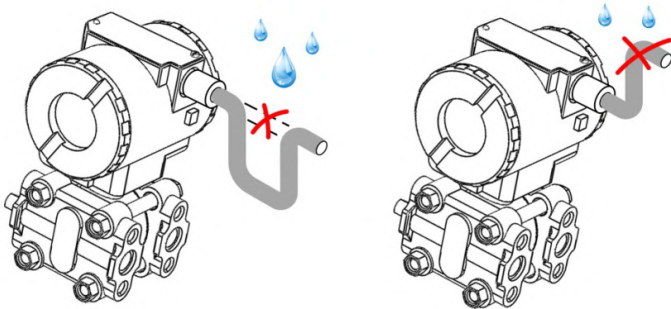

Figure 5.4 - Cable entry
5.1.20 See Figure 5.4 for cable positioning recommendation.